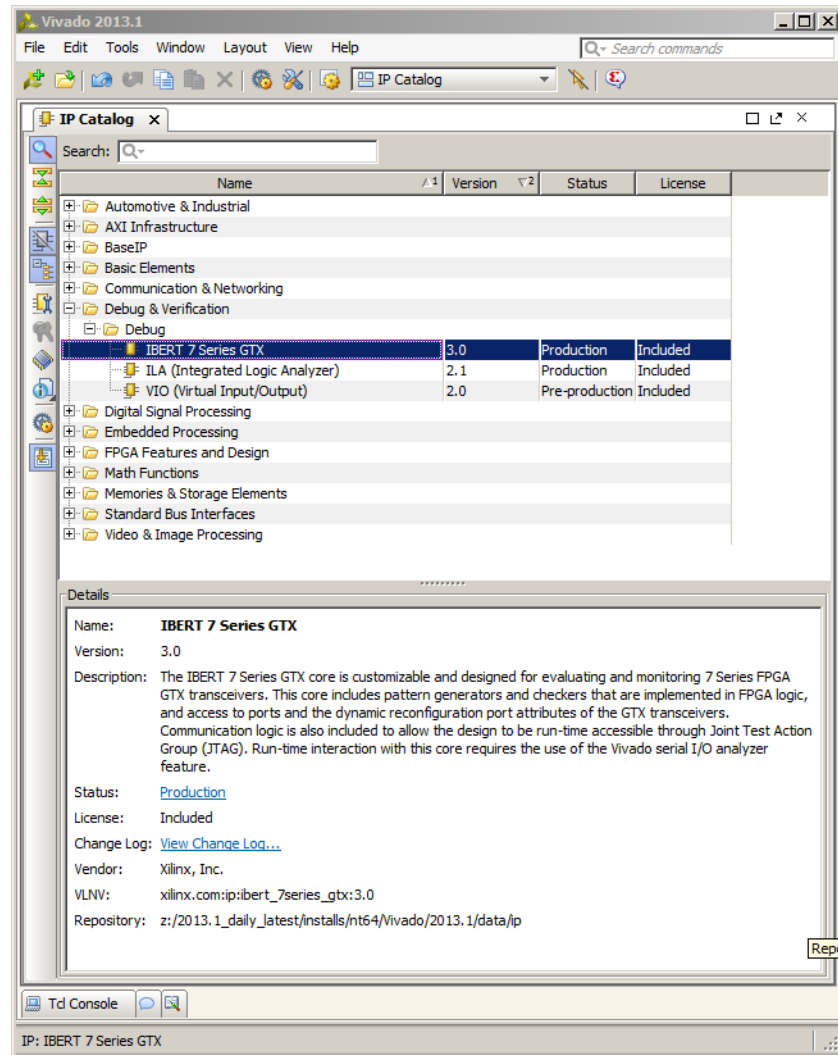

Figure 7-1: IP Catalog Showing the IBERT 7 Series GTX Core
4. In the **IP Catalog** under **Debug and Verification > Debug**, you will find one or more available IBERT cores as shown in Figure 7-1, depending on the device selected in the previous step.